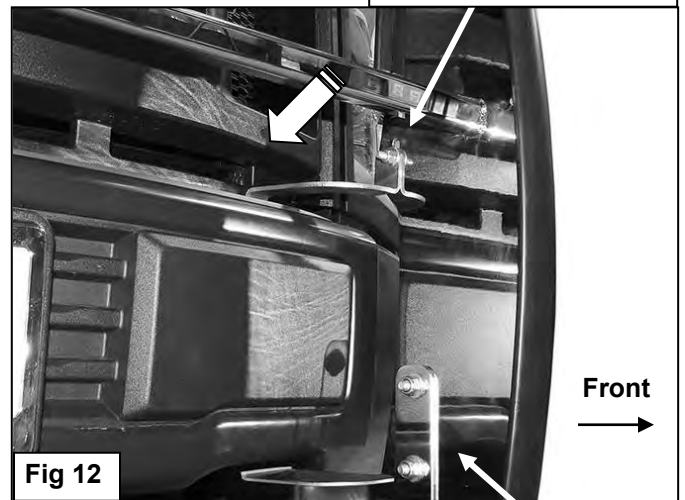

Fig 12
5. With assistance, place the Grille Guard up to the outside of the Frame Brackets. Attach the Grille Guard to the Brackets with (4) 10mm x 30mm Hex Bolts, (8) 10mm Flat Washers and (4) 10mm Nylon Lock Nuts, (**Figure 12**). Snug but do not tighten hardware at this time.
7. Line up the driver side Top Bracket with the hole in the upright on the Grille Guard. Attach the Bracket to the Grille Guard with (1) 8mm x 30mm Hex Bolt, (2) 8mm Flat Washers, (1) 8mm Nylon Lock Nut, (**Figure 12**).